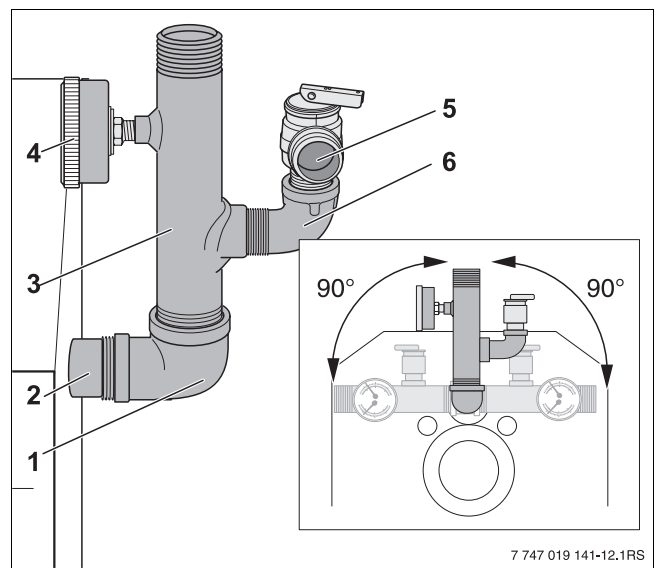

Fig. 14 Installing B-Kit
- Fit and seal manifold to 90° elbow. The manifold can face in different directions (→ Fig. 14).
- Seal pressure relief valve connection (→ Fig. 14 "Installing B-Kit", page 19) and all other open connection with blind plugs.
- Installing pressure relief valve (→ Fig. 14 "Installing B-Kit", page 19)